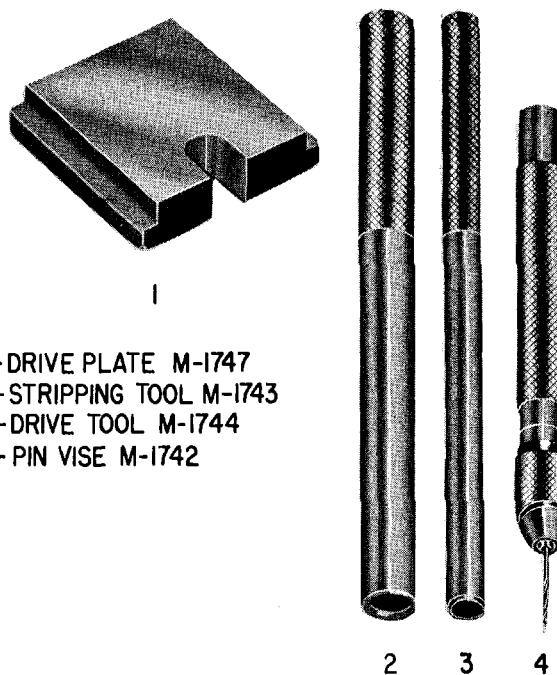

Figure 4-6. Tooling, Slick Harness
4-17. Cut the individual cable to the required length shown in Table 4-1. Make a mark $7/8"$ from the magneto end and $1"$ from the spark plug end. Flare out the copper shielding and insert the stripping tool (figure 4-6) beyond the mark. Do not allow the shielding to fold under while inserting tool. With a sharp knife, and using a rolling motion while cutting, cut and remove the copper shielding at the marks. Remove the stripping tool.
4-18. At both ends cut the exposed insulation back from the end $1/16$ inch. Do not pull insulation from wire, remove by turning clockwise. Trim the coiled conductor, conductor should protrude approximately two coils. Using the pin vise (figure 4-6) drill and remove silicone rubber from the inside of the coiled conductor, this will facilitate installation of the electrode screw in a later step.
4-19. SPARK PLUG END. Install hex ferrule (8) over lead with flange end toward end of wire. After assembly of this ferrule, bend and rotate the silicone insulation to flare out the copper shielding. Install drive ferrule (9) over insulation and under shielding to within $1/16$ inch of flange of hex ferrule. Slide hex ferrule over drive ferrule until tight. Mount drive plate (figure 4-6) in a bench vise. Set hex ferrule in slot of drive plate and, using the drive tool (figure 4-6) drive the drive ferrule flush against the hex ferrule. Install spark plug nut (7) on cable with threaded end toward ferrules.
4-21. BOTH ENDS. Clamp threaded end of electrode screw (3 and 10) in pin vise (figure 4-6) and assemble the screw into the center of the coiled conductor. Turn counter-clockwise and push the screw until the tapered pin portion is flush with the insulation. Place sleeve (2 and 11) over insulation and turn spring (1 and 12) onto electrode screw until the end of the screw is flush with the first large coil of the spring.